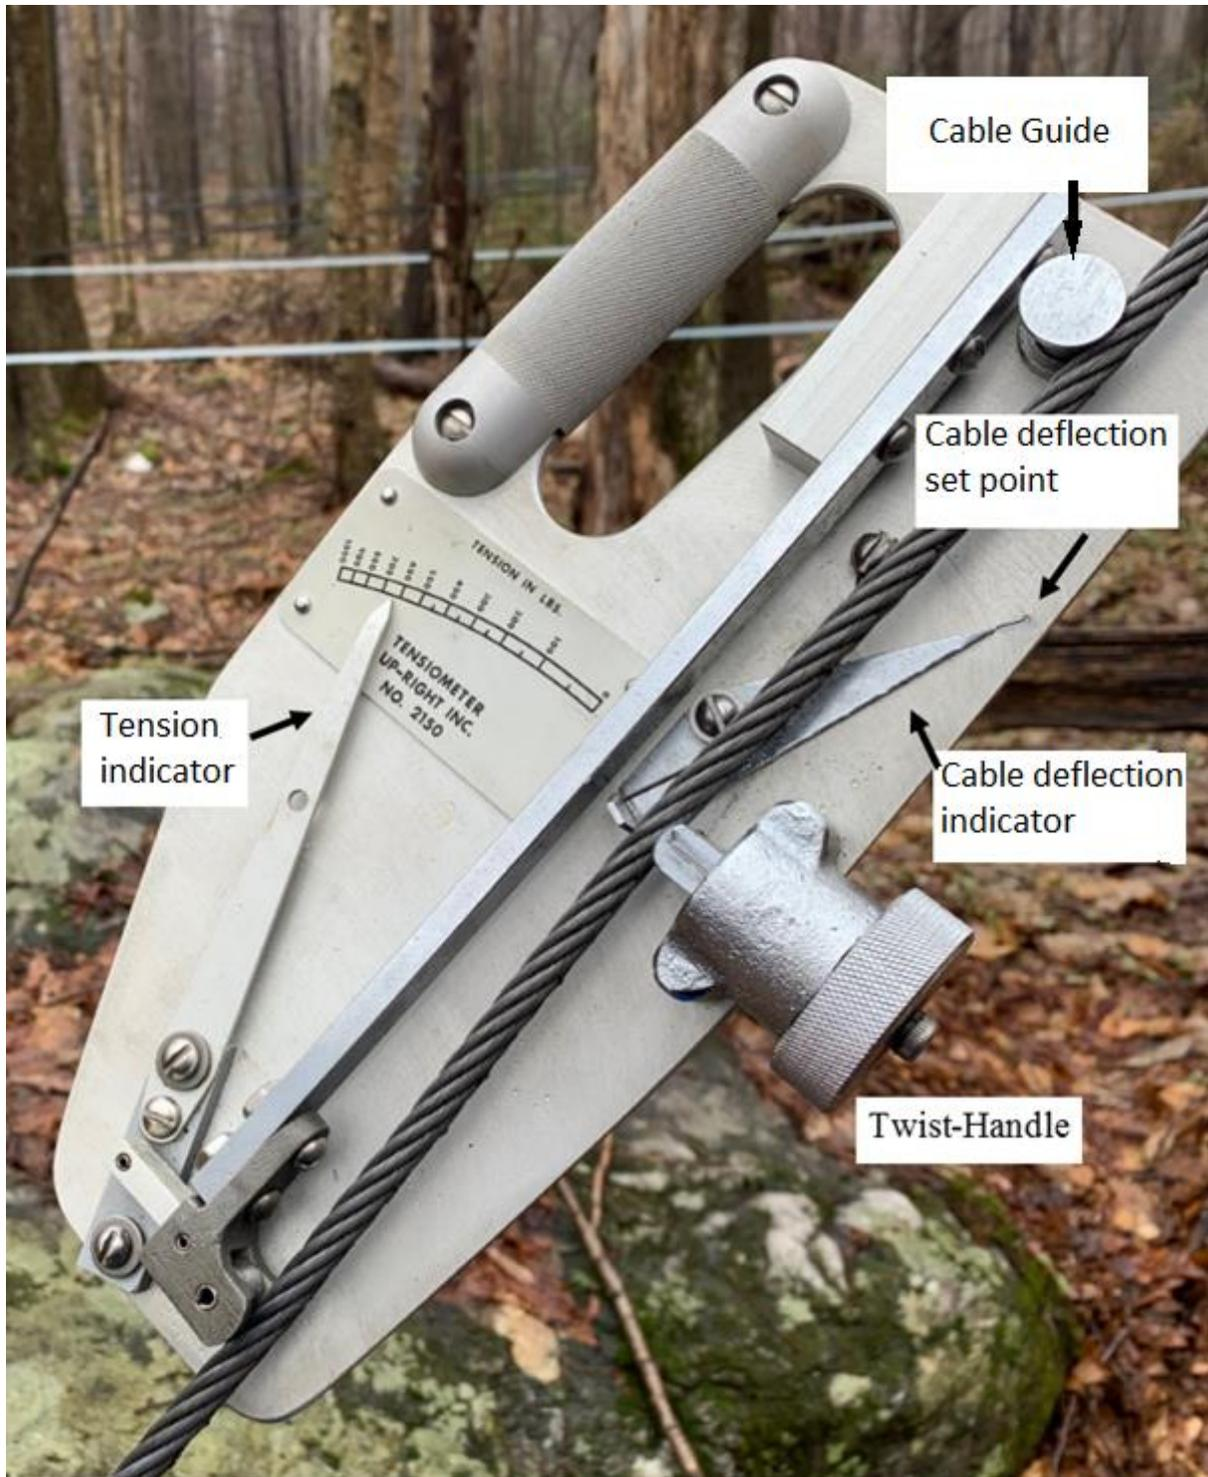

Figure 3. Tensiometer used to measure the tensions in the cables that support the forest canopy tower.
4. Begin by having each person attach their tensiometer to the cable near the base, but above where any excess cable slack is gathered and attached. The tensiometer should be positioned as shown in Figure 3, being sure the cable sits within the low point on the cable guides. To tighten the tensiometer to the cable, turn the twist-handle until the cable deflection indicator lines up with the deflection set point.